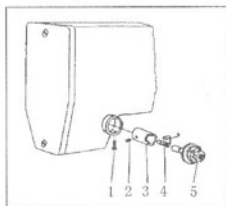

Fig. 13
22. The thread take up spring tension adjustment(Fig.13)